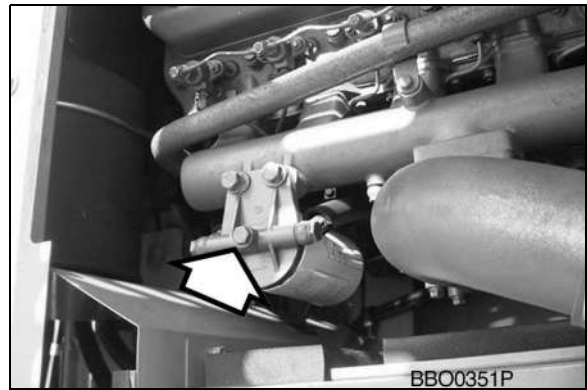

Figure 16
1. Loosen plug (Figure 16) on top of fuel filter head.